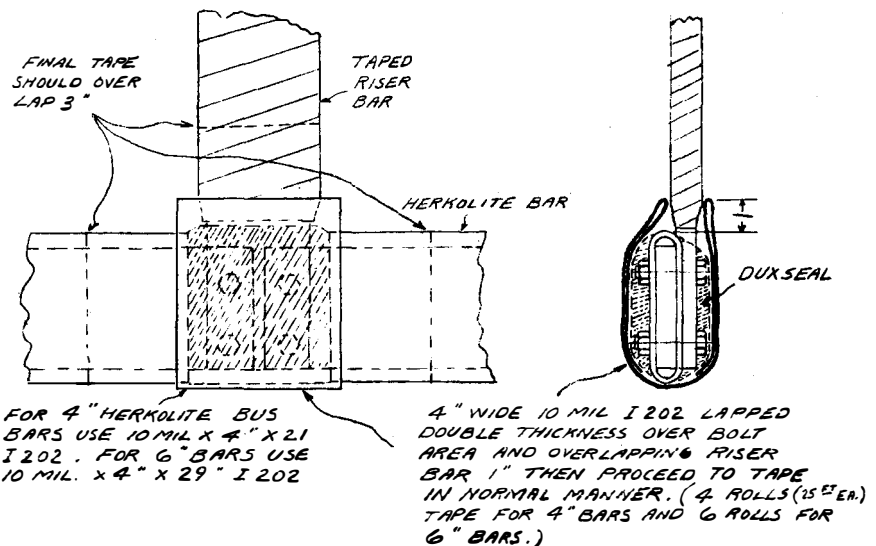

Fig. 26 13.8 KV Taped Joints
- (1) Fill all cavities around bolts and nuts with Duxseal compound to form smooth surface for taping, thus preventing air voids. This compound is not an insulating medium and should not be used for that purpose.
- (2) Place 4" wide Irrathene tape over the Duxseal, as shown in Fig. 26.